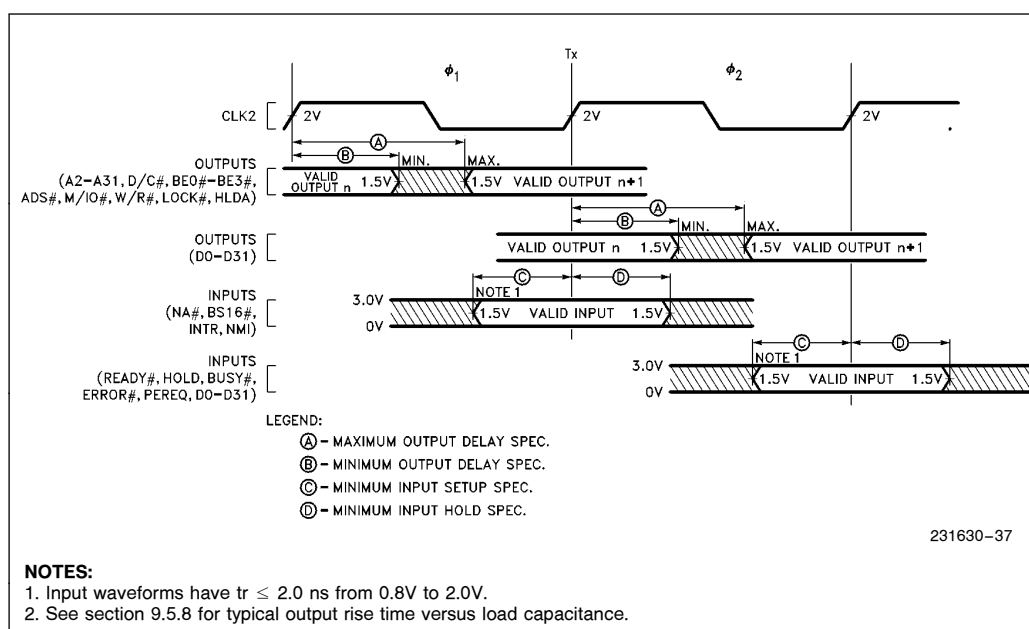

Figure 9-1. Drive Levels and Measurement Points for A.C. Specifications
A.C. spec measurement is defined by Figure 9-1. Inputs must be driven to the voltage levels indicated by Figure 9-1 when A.C. specifications are measured. Intel386 DX output delays are specified with minimum and maximum limits, measured as shown. The minimum Intel386 DX delay times are hold times